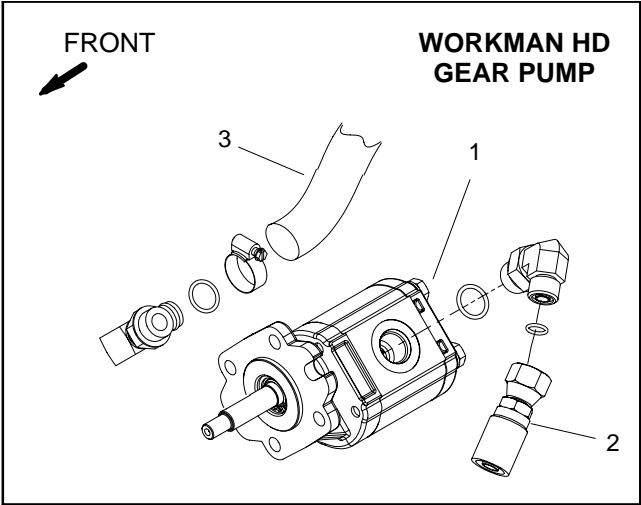

Figure 19
4. With the engine off, clean hose fitting and disconnect the pressure hose from the gear pump (Fig. 19). Install tester with pressure gauges and flow meter in series between the gear pump and the disconnected hose. **Make sure the tester flow control valve is open.**